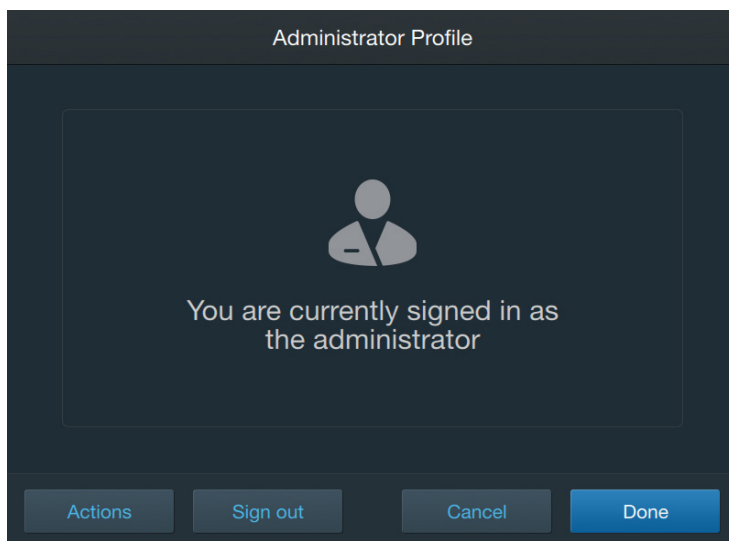

Figure 3.16. Administrator profile screen.
4. After you have created the Administrator profile, you can use the Administrator option under **System settings** to sign in and out of the profile (Figure 3.16).